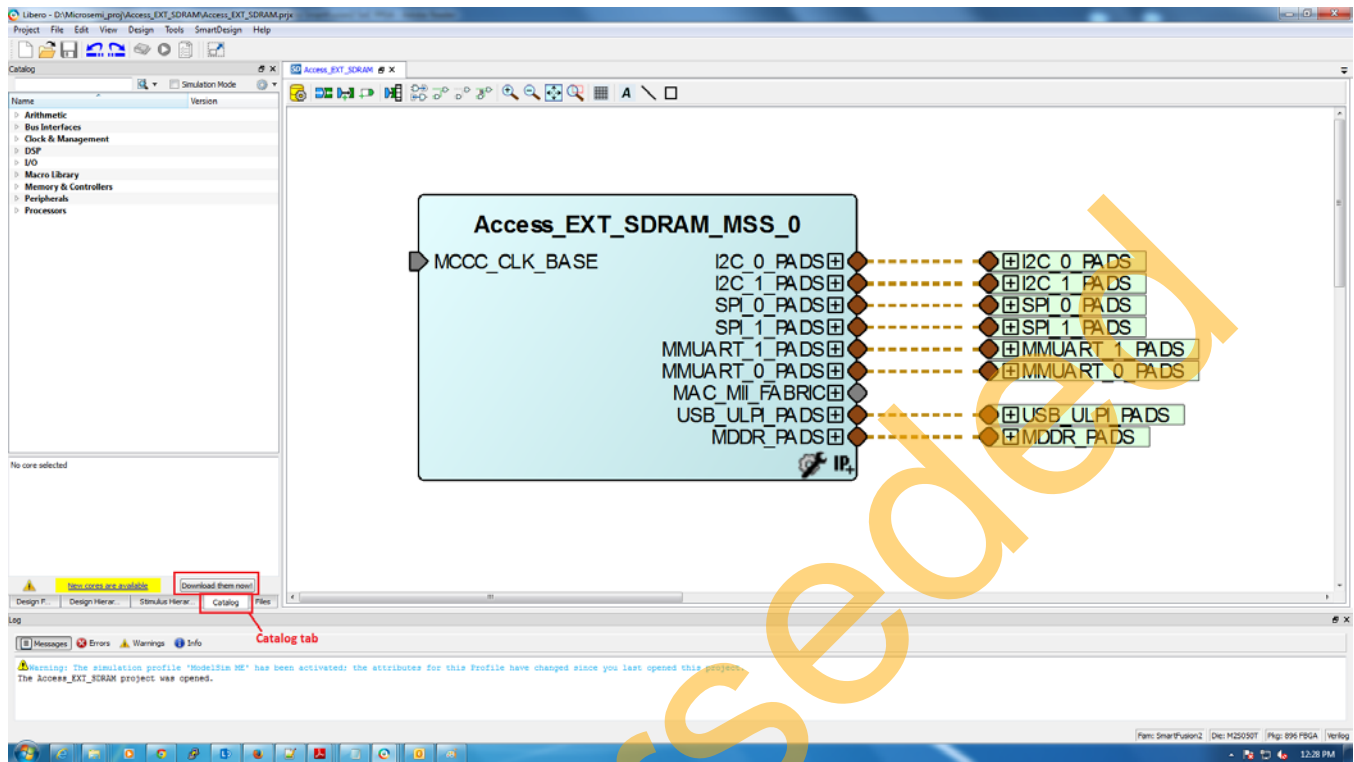

Figure 5. Updating the Catalog
- Click the **Catalog** tab, as shown in Figure 5. If a message is displayed as “New cores are available”, click **Download them now!** to download all the latest versions of the IP cores.